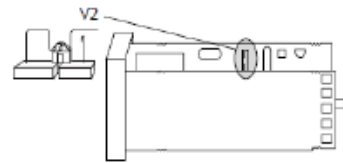

Figure 1
1. Open V2 switch for Basic Configuration (Figure 1)
3. Close V2 switch after Basic Configuration (Figure 1)